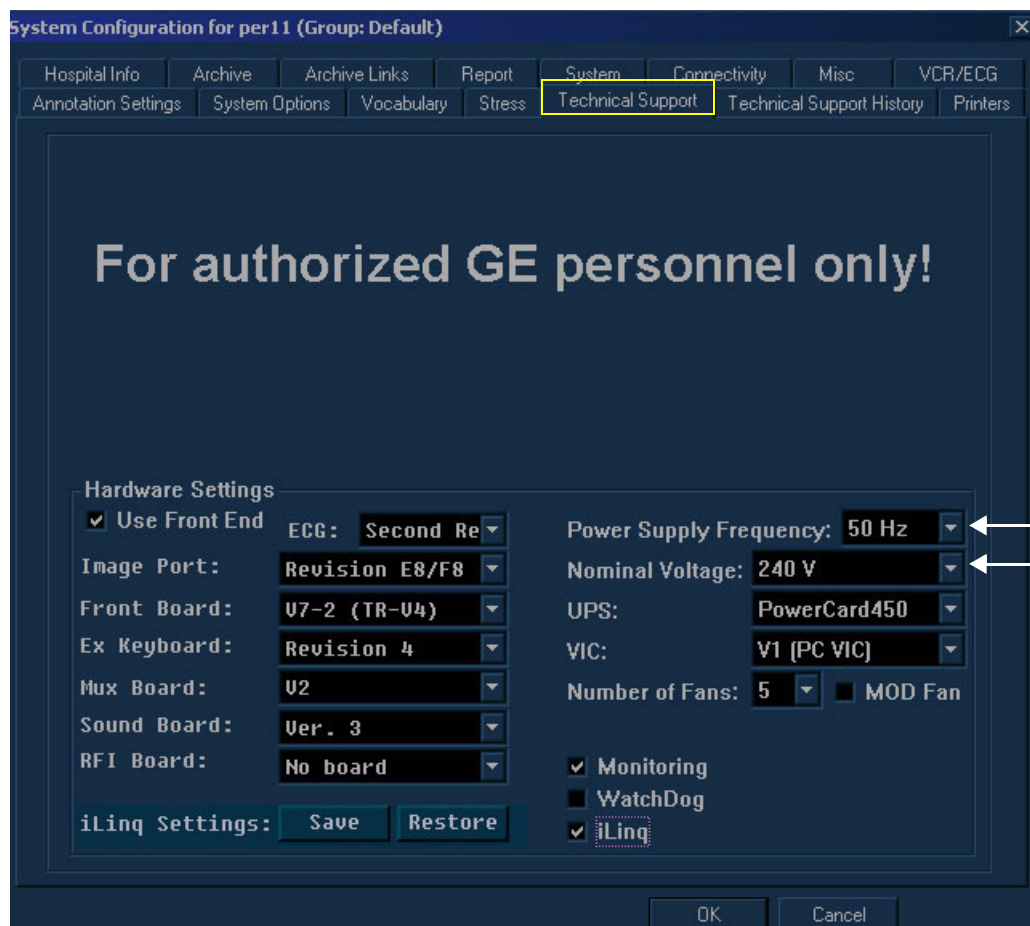

Figure 3-14 System Configuration Technical Support Tab
- 4.) Make sure the frequency and voltage ranges are set up correctly and that the appropriate settings are displayed in the *Power Supply Frequency* and *Nominal Voltage* fields (lower right side of the dialog box) - see Figure 3-14 on page 3-20.